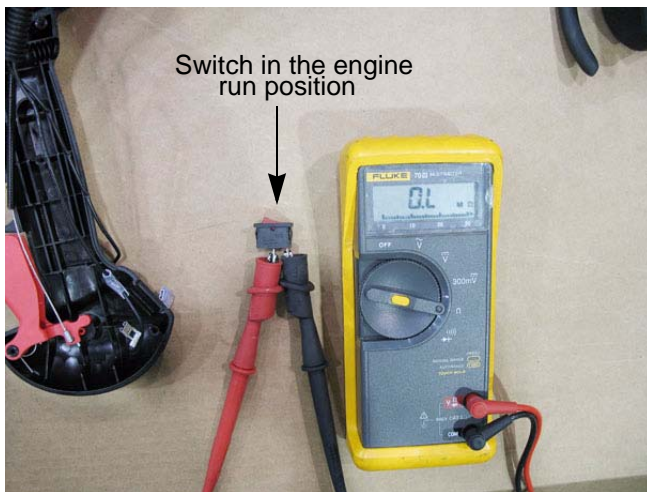

Figure 4.4
3d. With the switch in the engine run position (I), the meter should indicate no continuity. See Figure 4.4.
3e. Hold the switch in the stop position (0). The meter should indicate continuity. See Figure 4.4.